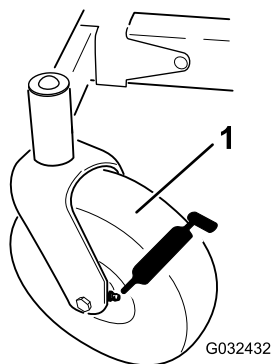
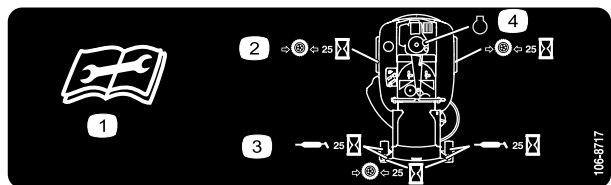

Figure 32
Figure 33
3. Clean the grease fittings (Figure 32 and Figure 33) with a rag.
4. Connect a grease gun to each fitting (Figure 32 and Figure 33).